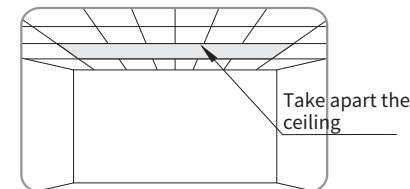
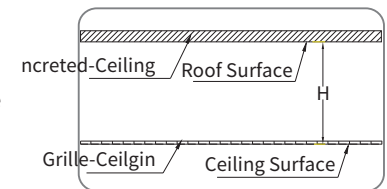

figure 1
figure 2
1. Choose a position according to the required space, and then take apart the ceiling (figure 1). Please measure the distance H between roof and ceiling surface correctly (figure 2).